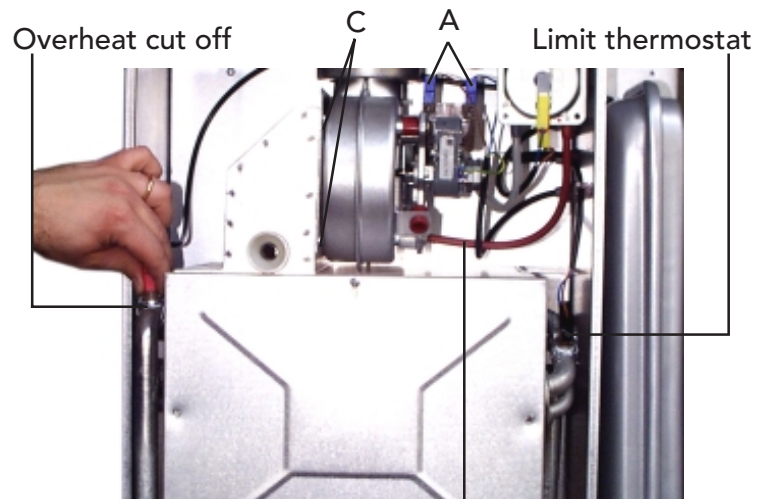

Fig. 42
## 7.10 Removal of fan (fig. 42)
## 7.11 Limit thermostat, or overheat cut off thermostat (fig. 42)
- Identify the location of thermostat from fig. 42